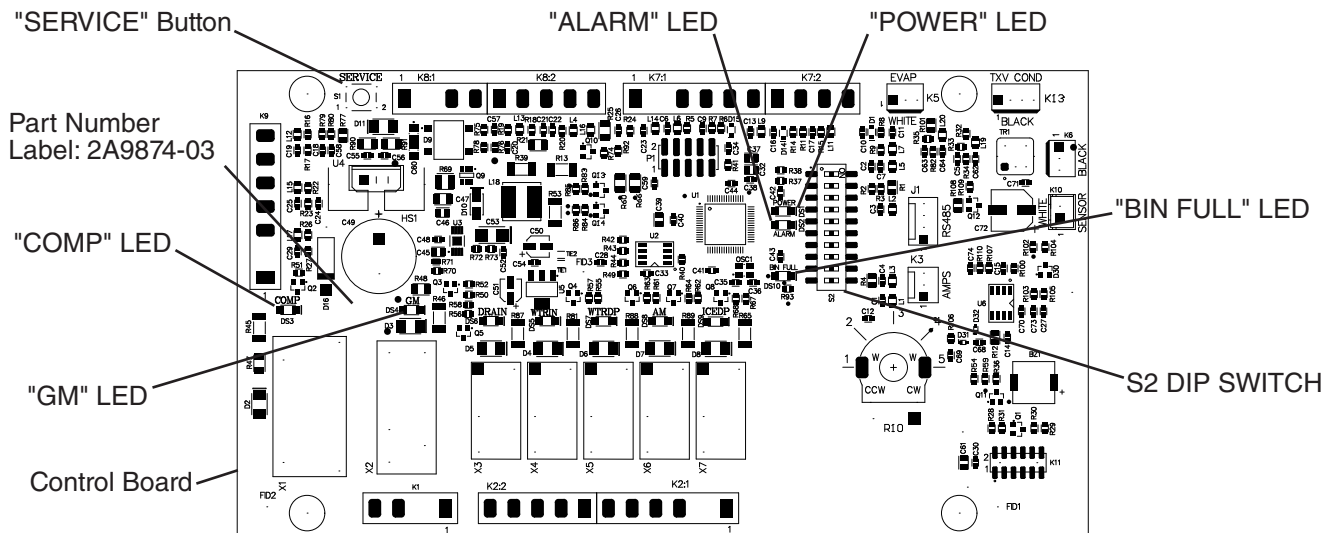

Fig. 7
- 13) Move the power switch to the "ON" position to start the automatic icemaking process. There is a delay of at least 10 seconds before the "GM" LED turns on after power-up. Make sure the "GM" energizes. The control board "GM" LED turns on. See Fig. 7. 1 min. later, the compressor energizes. Confirm the "COMP" LED turns on.